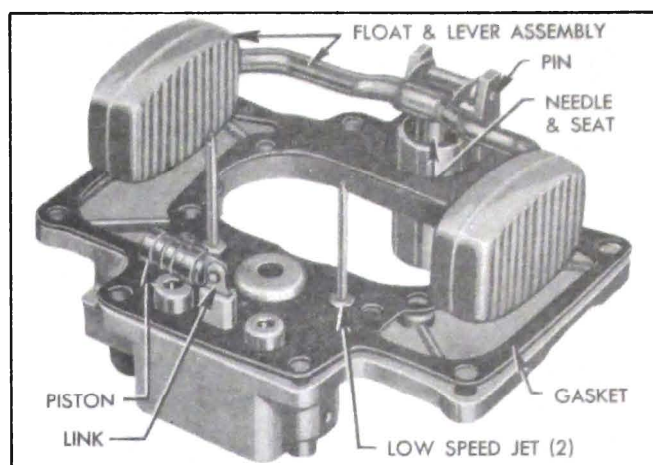

Figure 3-29—Parts Assembled on Bowl Cover
7. Swing vacuumer piston  $\frac{1}{4}$  turn to remove it from piston link then remove link from bowl cover. See figure 3-29.
15. After completing float adjustments, carefully remove float assembly, install both low speed jets and a new bowl cover gasket and re-install float assembly. See figure 3-29.